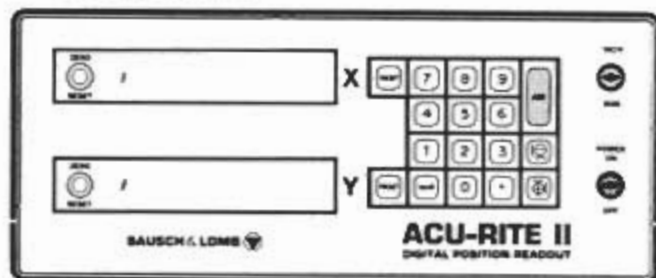

Figure 3-4. Console Status: Power On
- Flip the console POWER switch to ON (see Figure 3-4). Both the ABS key and the fault indicator(s) at the left of the display(s) will light and the display(s) will be blank, indicating that the fault circuits are working properly in the absolute mode.